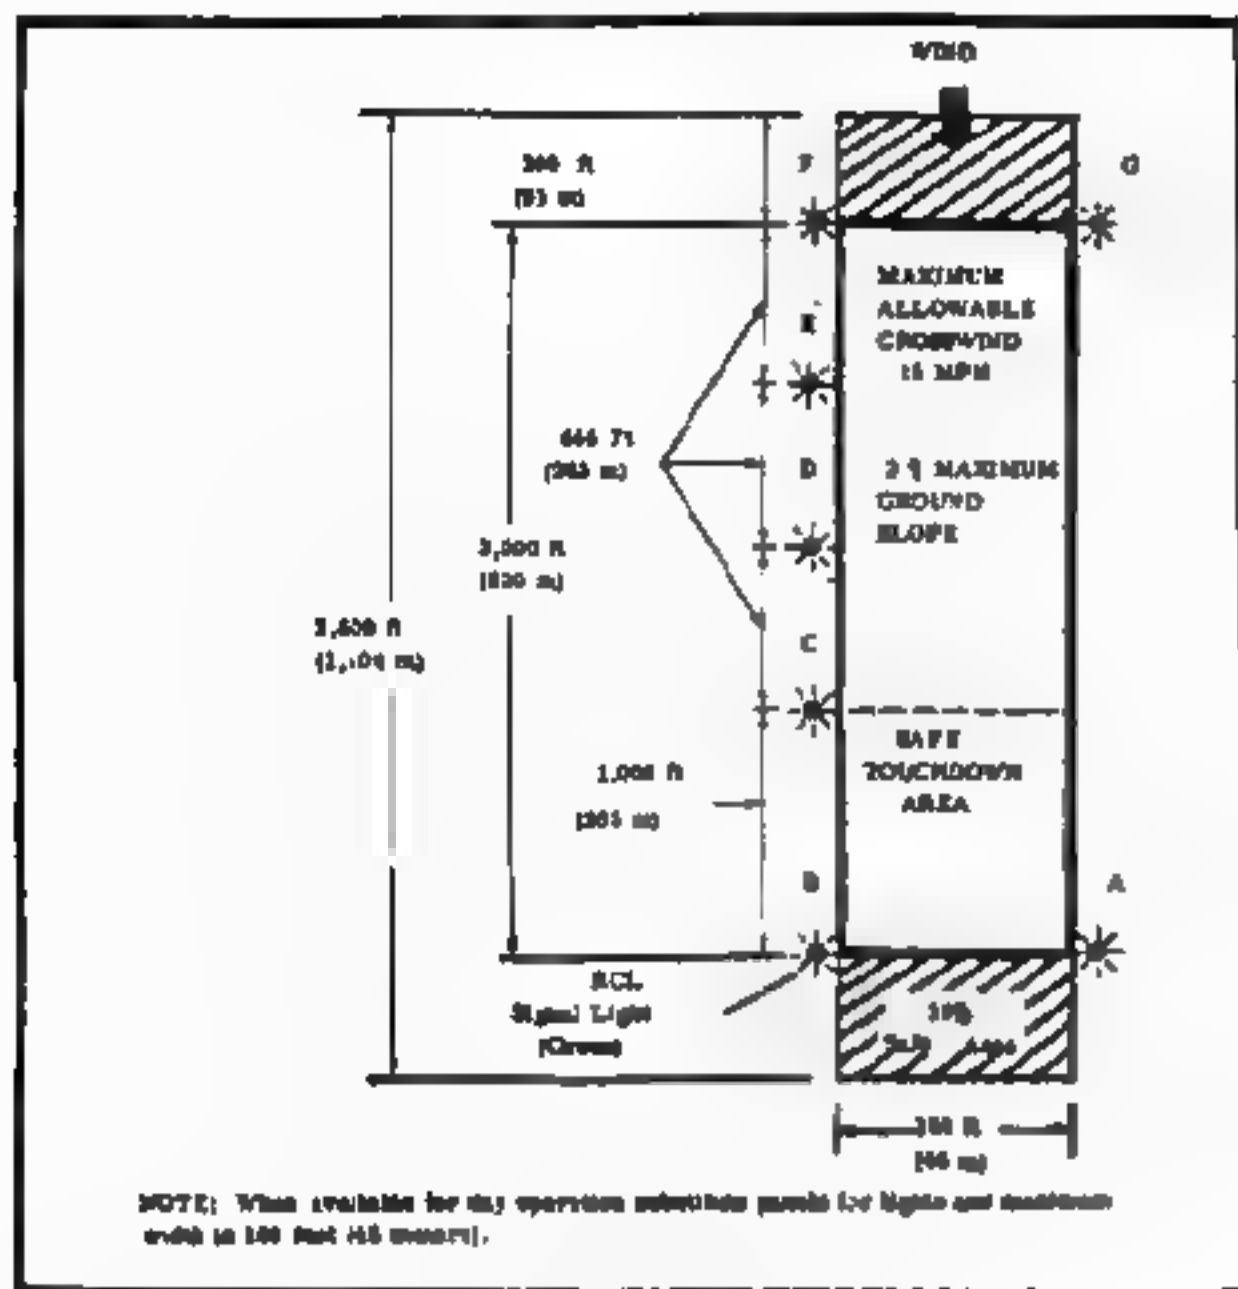

Figure 11. Landing zone (day) medium aircraft (night operations).
(1) For night operations lights are used for marking LZ's; during daylight, panels are used. When flashlights are used, they should be hand-held for directional control and guidance.
(2) The pattern outlining the limits of the runway consists of five or seven marker stations (Figures 11 and 12). Stations "A" and "B" mark the downwind end of the LZ and are positioned to provide for the safety factors previously mentioned. These stations represent the initial point at which the aircraft should touch the ground. Station "C" indicates the very last point at which the aircraft can touch down and complete a safe landing.
(3) A signal station manned by the RCL (a member of the operational detachment) is incorporated into light station "B" at the approach or downwind end of the LZ (Figures 11 and 12). For night operations, (the signal light operations) a distinctive panel or colored smoke, located approximately 15 meters to the left of station "B" (RCL), is used for recognition.